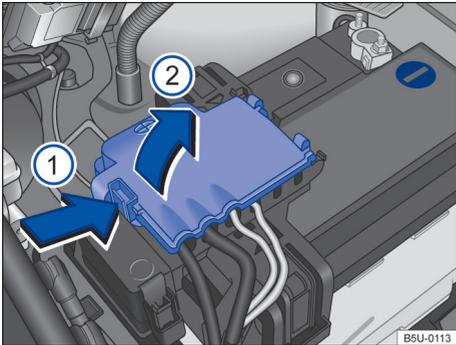

Fig. 149 Engine compartment: access to the positive battery terminal.
- Open the positive terminal cover. To open, press the lock in the direction of the arrow → Fig. 149 ① and move the cover to the side, in the direction of the arrow ②.